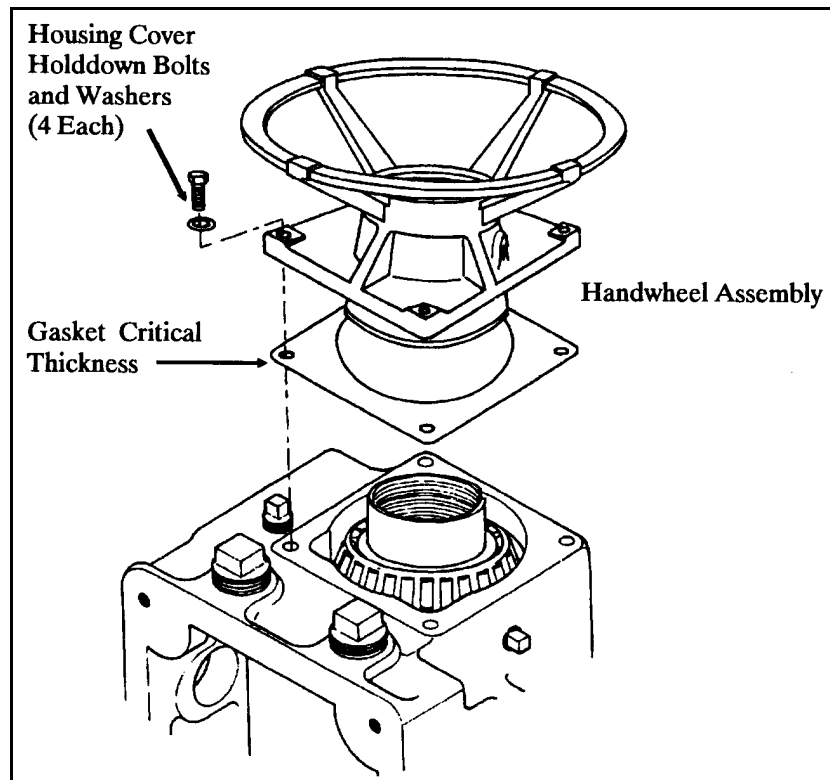

Figure 4-22 Handwheel Assembly Removal
6. Handwheel Assembly Removal Refer to Figure 4-22